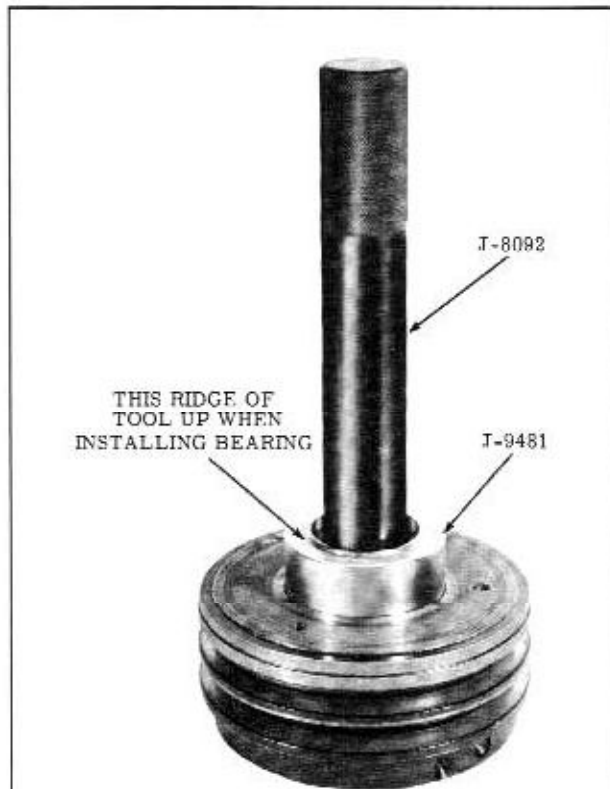

Fig. 14-26 Installing Pulley and Drive Plate Bearing
- c. Install new bearing as shown in Fig. 14-26, then install retaining ring.